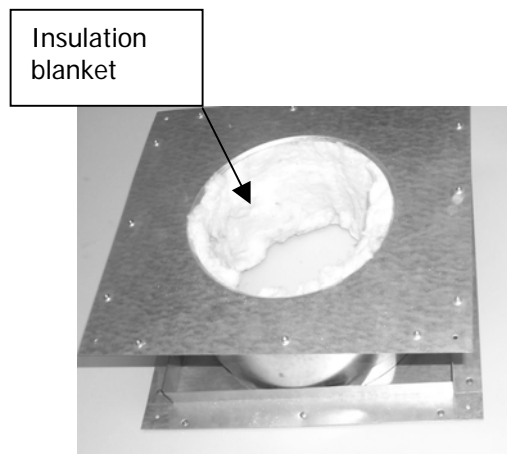

Figure 5: Wall thimble with insulation blanket
1. An insulation blanket is provided and must be added to any wall pass through (thimble) kit. This blanket is installed inside the wall pass through the thimble and wraps around the pipe that protrudes through the wall. (*see figure 5*) The blanket must extend the full-length, front to back, of the thimble.